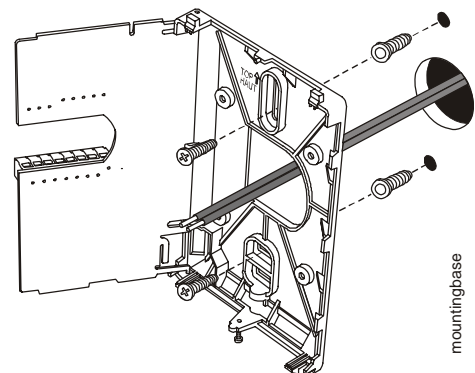

**Figure 1: Bottom of Thermostat**
2. To open, pull on the bottom side of the thermostat (Figure 1).